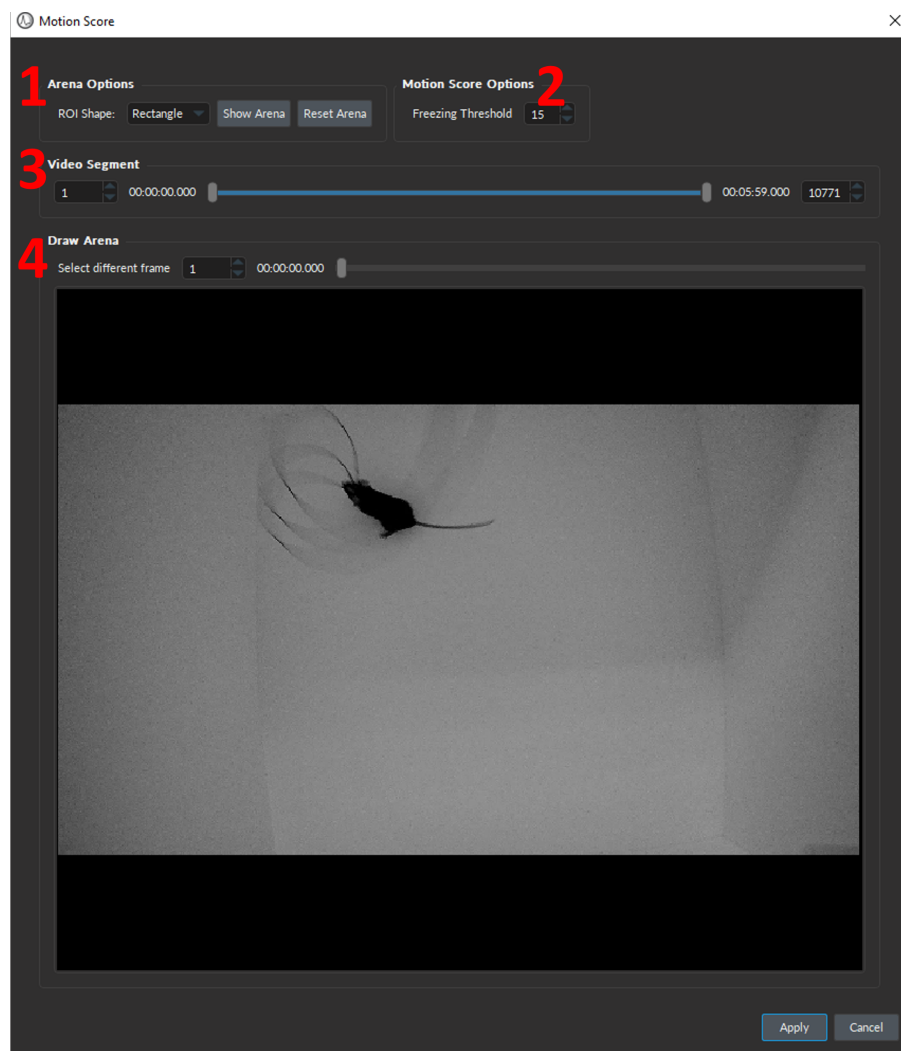

Figure 12.12: *Motion Score window*
1. The **Arena Options** (Fig. 12.12, 1) allows users to draw a shape on a still frame of the video to define the part of the image that corresponds to the animal arena. If no arena is defined, the entire image will be set as the arena. To define the arena area use the following parameters:
2. The **Motion Score Options** (Fig. 12.12, 2) defines the **Freezing Threshold** pixel value. This value must be between 0 and 255. This is a relative value indicating the value count change that is interpreted as movement.
3. The **Video Segment** sliding scale (Fig. 12.12, 3) is used to define a time window within the video where the **Animal Tracking** algorithm will be applied. **This feature is useful to test the parameters on small video increments at a time to verify whether those parameters are satisfactory.** Users can define the time window using either by specifying a starting and ending frame or by using the two sliding scale pointers.
4. The **Draw Arena** (Fig. 12.12, 4) displays a still frame of the video where the user will define the arena which will be the input to the **Motion Score** algorithm.